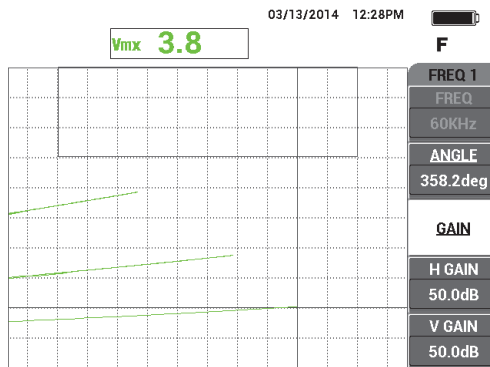

Figure 5-80 The signals from different conductivity samples
8. Place the probe successively on the 17 %, 32 % and, 45 % conductivity samples, and then press the FREEZE key (❄️) when done (see Figure 5-80 on page 185).